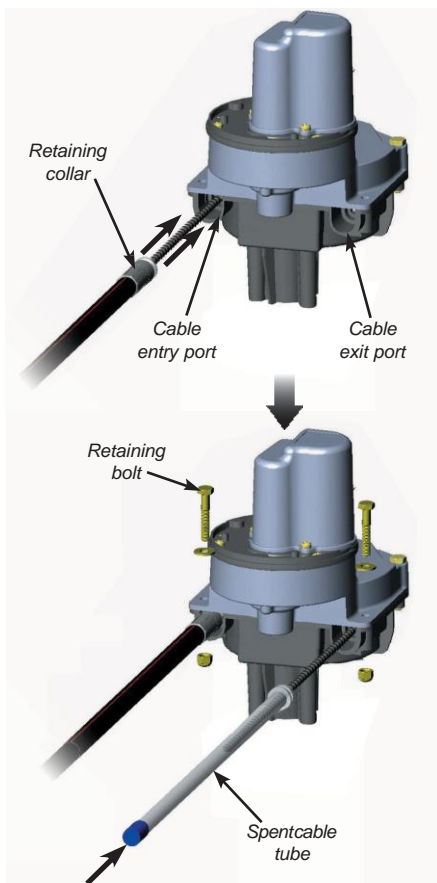

Fig B18 - Fitting steering cable and spent cable tube to drive unit
- Fit the steering cable (Fig B18).